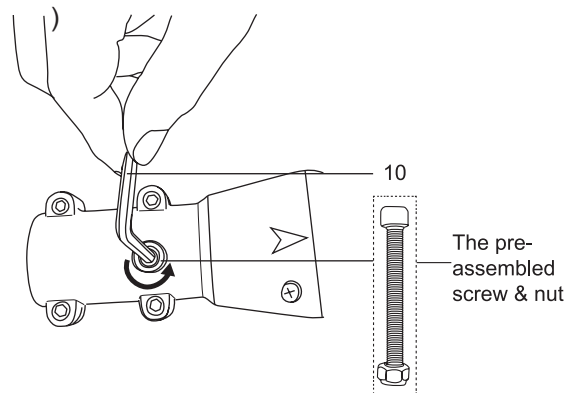

Fig. 1
1. Place the product (the rear part) and motor unit on a flat stable surface with the side cover (12) facing upwards.
2. Turn the pre-assembled screw anticlockwise by using the hex key (10), and remove it together with the nut, keep them on hand. (Fig. 1)